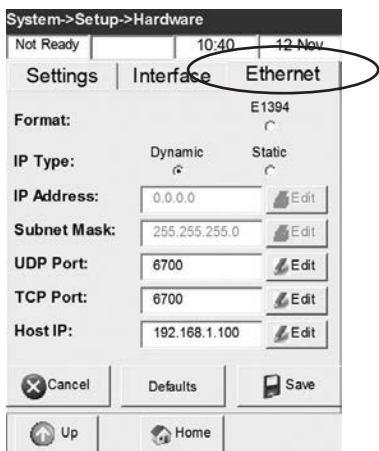

Fig. 3-43 Ethernet
- Choose the **<Ethernet>** tab (Fig. 3-43).